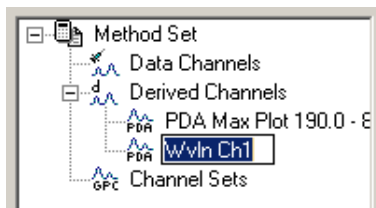

Figure 3-19 Method Set Tree Pane
2. Right-click the **Wvln Ch1** derived channel in the tree pane on the left side of the Method Set Editor window. Select **Rename** from the shortcut menu. Wvln Ch1 is selected (Figure 3-19). Enter a new name for this derived channel, for example, **254nm**.